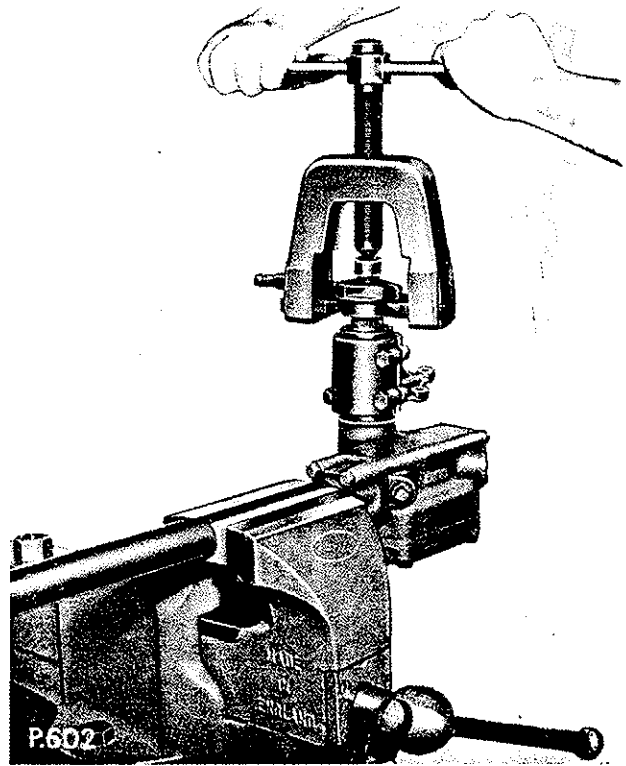

Fig. J.4. Removing the drop arm using Churchill Tool R.G.59A with Churchill Thrust Pad R.G.59A-1
3. Remove the drop arm using Churchill Tool R.G.59A and Thrust Pad R.G.59A-1, after tapping back the lockwasher and removing the retaining nut (see Fig. J.4).